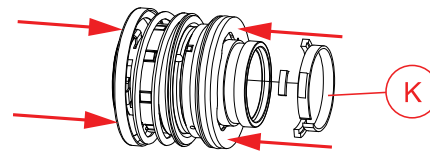

Figure 12-13: Compress Seal
1. Follow Section 12.3.2 steps 1 through 3 to install the seal plate (184) if not already.
2. To install the mechanical seal (189) with a solid shaft (106) the sleeve (126) will need to be removed. Begin compressing the seal by pressing on the stationary seat (J), this will break the shear ring (K), Figure 12-13. This will take some force, use of a hydraulic press may be needed.